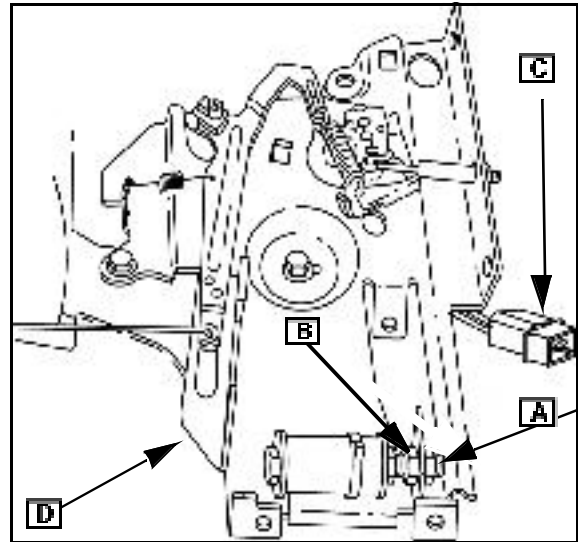

Fig. 43
1. Loosen both adjusting nuts ([A] and [B] Fig. 43). Then, unscrew nut (A) until flush with end of bolt.
3. With the engine running, apply 12VDC to connector ([C] Fig. 43). Extended governor lever ([D] Fig. 43) will be pulled against head of idle bolt.
4. Adjust nut (A) to obtain 2300 RPM. Remove 12VDC from connector.
5. Hold nut (A) and idle down control in position. Tighten nut ([B] Fig. 43.)